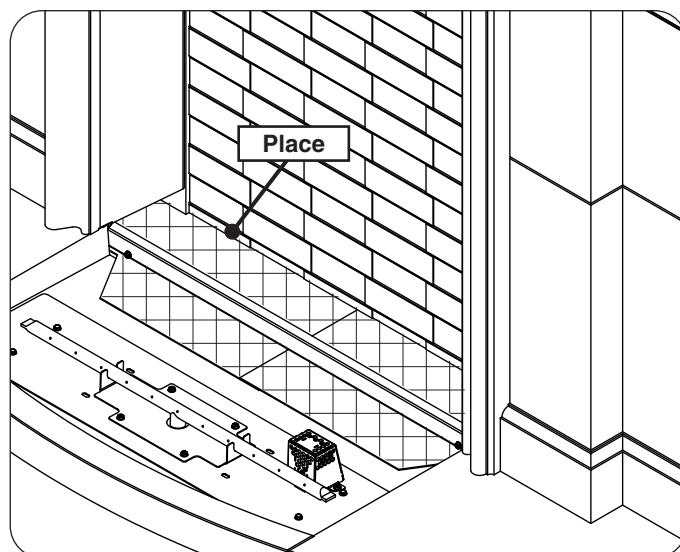

Fig. 31-2 Place left screen
2. Place the left screen as shown in Fig. 31-2.